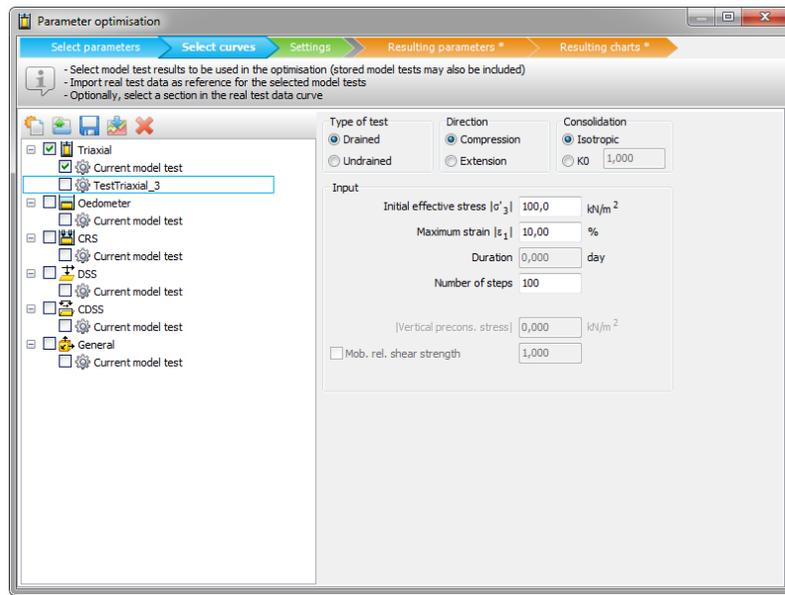

Figure 192: Custom test definition in the **Select curves** tabsheet
-  New test conditions can be defined by selecting the *New test configuration* option from the tool bar. This will introduce a new test under the selected test, for which the test conditions can be defined in the right-hand panel (Figure 192: Custom test definition in the Select curves tabsheet (on page 278)).